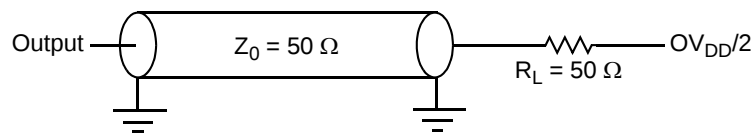

Figure 29. AC Test Load for the JTAG Interface
1. All outputs are measured from the midpoint voltage of the falling/rising edge of  $t_{CLK}$  to the midpoint of the signal in question. The output timings are measured at the pins. All output timings assume a purely resistive 50-Ω load (see Figure 29). Time-of-flight delays must be added for trace lengths, vias, and connectors in the system.
2. The symbols used for timing specifications follow the pattern of  $t_{(first\ two\ letters\ of\ functional\ block)(signal)(state)(reference)(state)}$  for inputs and  $t_{(first\ two\ letters\ of\ functional\ block)(reference)(state)(signal)(state)}$  for outputs. For example,  $t_{JTDVVKH}$  symbolizes JTAG device timing (JT) with respect to the time data input signals (D) reaching the valid state (V) relative to the  $t_{JTG}$  clock reference (K) going to the high (H) state or setup time. Also,  $t_{JTDXKH}$  symbolizes JTAG timing (JT) with respect to the time data input signals (D) went invalid (X) relative to the  $t_{JTG}$  clock reference (K) going to the high (H) state. Note that, in general, the clock reference symbol representation is based on three letters representing the clock of a particular functional. For rise and fall times, the latter convention is used with the appropriate letter: R (rise) or F (fall).
Figure 29 provides the AC test load for TDO and the boundary-scan outputs.